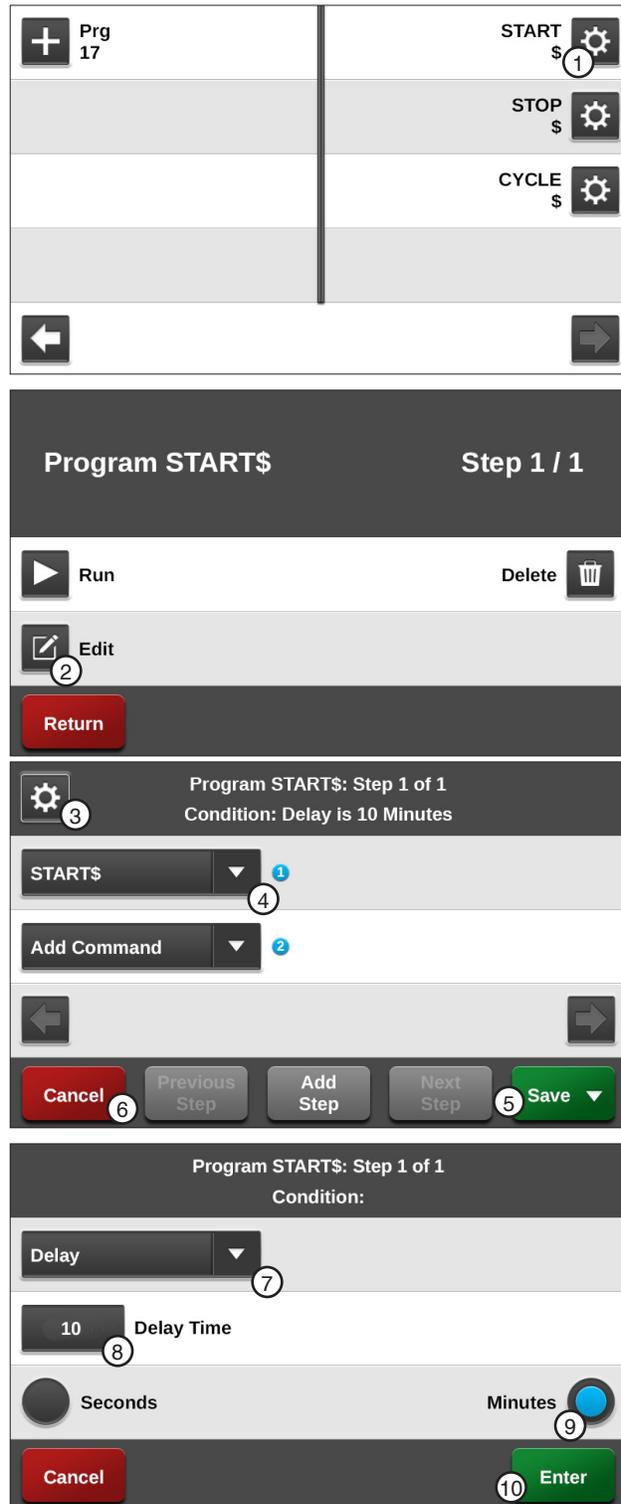

Figure 136-1 1. START\$ Command 6. Cancel
1. Push **Menu**, **Programs** and **Step Programs** to view the Step Programs screen. Refer to Figure 136-1.
4. Push the **Settings** button (gear icon). Refer to Figure 136-1.
11. When you are done editing, finish the program by pushing the **Save** button and selecting **Save** to save the program. Refer to Figure 136-1.